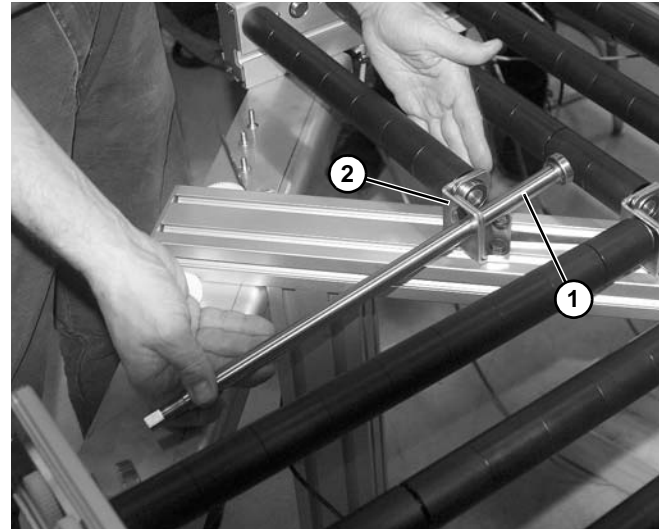

Figure 68
12. Once all rollers are removed, continue to remove shaft (**Figure 68, item 1**) from corner bracket (**Figure 68, item 2**).